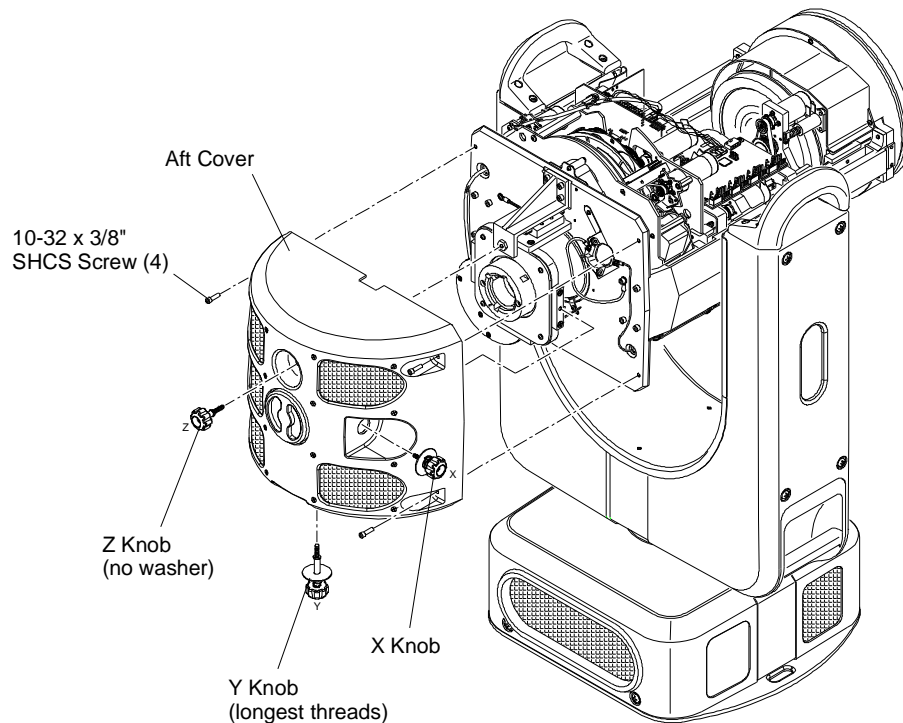

Figure 4-2: Removing Aft Cover
- Step 1. At Aft Cover, remove X, Y, and Z Adjustment Knobs (**Figure 4-2**).